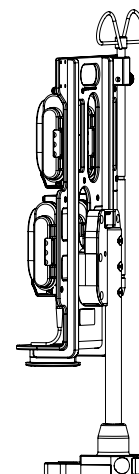

Figure 7: Installing the mounting bracket in the Micro Base vertically
1. Align and insert the mounting bracket in the Micro Base horizontally (Figure 6) or vertically (Figure 7) until it locks. Refer to the « Safety Mechanism » section on page 18 if needed.